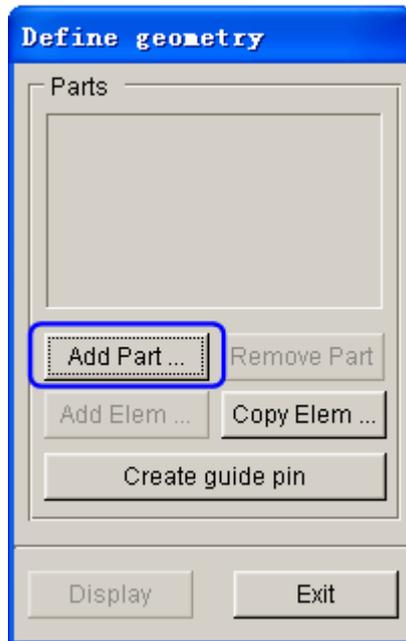

Figure 2.26 Define geometry dialog box
- Click **Define geometry...** button to display the DEFINE GEOMETRY dialog box illustrated in Figure 2.26.